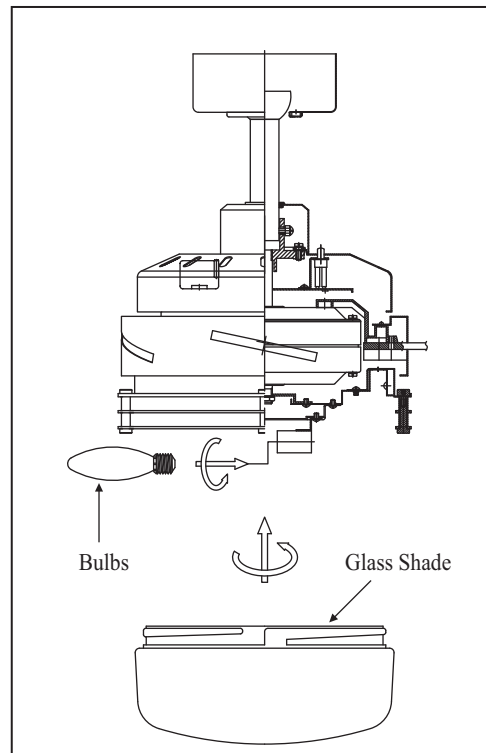

Figure 19
4. Install 2 x 60W candelabra bulbs (included). (Fig. 19)
5. Raise glass shade up against the light kit and secure it to fan by turning glass counterclockwise until snug. DO NOT OVERTIGHTEN. (Fig. 19)